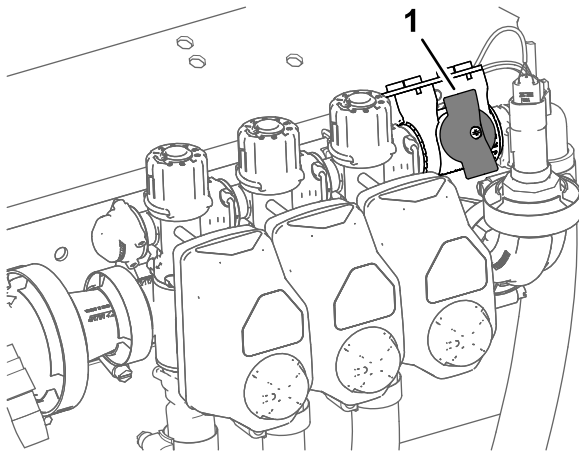

Figure 49
4. For machines operated in the application-rate mode, ensure that the knob for the section-bypass shutoff valve is in the closed position (Figure 49).
5. For machines operated in the application-rate mode, ensure that the section-bypass shutoff valve is closed (Figure 49).